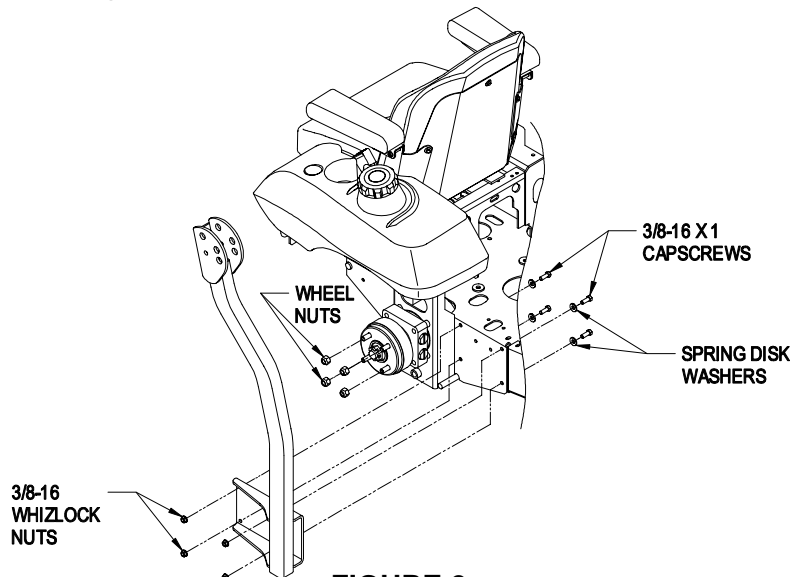

FIGURE 2
- b) Align lower roll bar tubes along wheel motor channels as shown in Figure 2.
- c) **LOOSELY** install lower roll bar hardware (four 3/8-16 x 1 capscrews, four spring disk washers and four 3/8-16 whizlock nuts) from the bolt bag to the tubes on each side as shown in Figure 2.